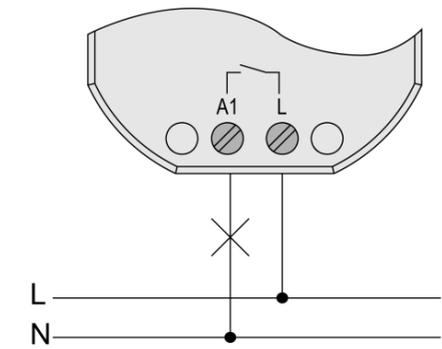

Figure 3: Connection of load
- Connect load as shown in the connection example (Figure 3).